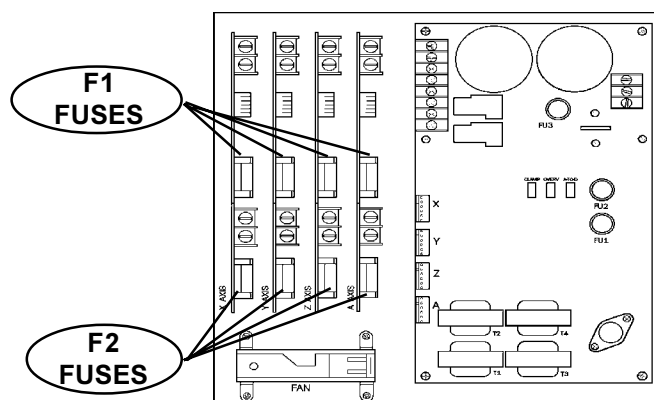

Fig 2-4 Servo Drive Assembly; fuse locations
3. On the SERVO DRIVE ASSEMBLY, there are three fuses on the SDIST panel, and three individual fuses on each of the SERVO DRIVE boards (See Fig. 2-4; the F3 fuses are not shown).